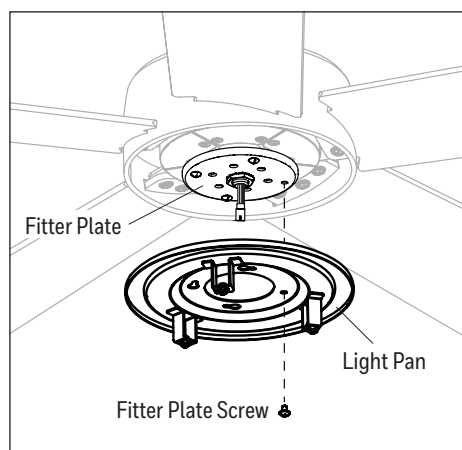

Figure 5.4
4. Remove one of the four fitter plate screws preassembled to the fitter plate and loosen the other three but do not remove. Feed the 3-pin connectors through the center hole in the light pan. Align the keyhole slots in the light pan with the loosened screws in the fitter plate. Turn light pan clockwise and replace the previously removed fitter plate screw. Tighten all screws (Figure 5.4).